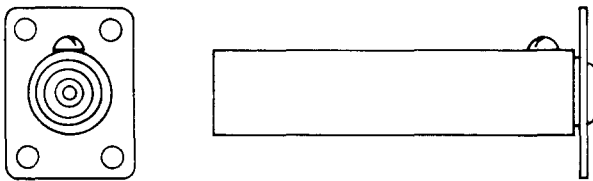

Fig. 9—478A Jack
**2.04 478A:** This coaxial-type jack (Fig. 9) is designed for use with the 358A and similar-type plugs. The test voltage for this jack is 2000 volts ac. The 478A jack is designed for a soldered wire connection to the inner contact terminal at the mounting end. This jack is not designed for a coaxial cable connection. This jack is used in the TD-2 Radio System.